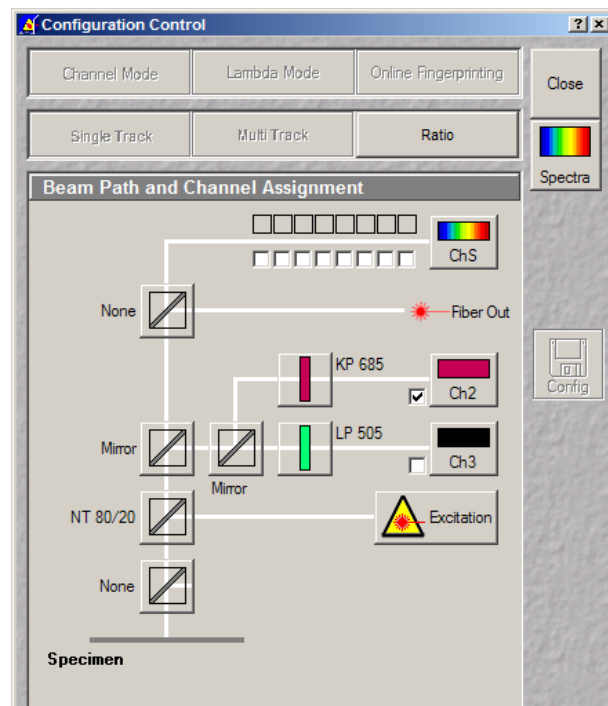

Fig. 4-14 Beam path configuration for finding glass reflection
- Set up a beam path in **Configuration Control** (see Fig. 4-14). Convenient settings are 488 line at 2 % AOTF, 80/20 splitter in the major beam splitter and an appropriate channel and emission filter, for example channel 3 with a KP680 id available.